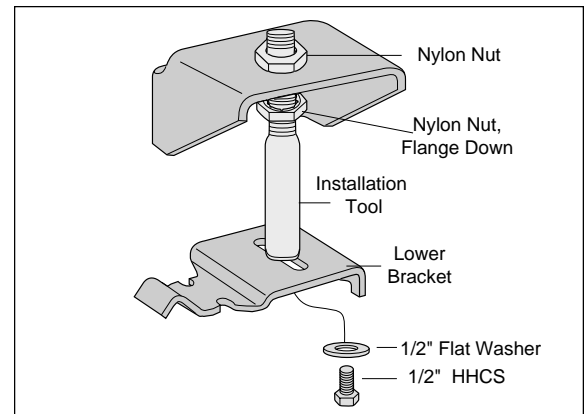

Figure 4
2. Secure the upper bracket (B) to the installation tool (D) using the provided nylon nut (F) (Figure 4).
3. Loosely attach the tool to the lower bracket (C) using 1/2" flat washer (H) and 1/2" bolt (G). Refer to Figure 4. Leave loose for adjustment.